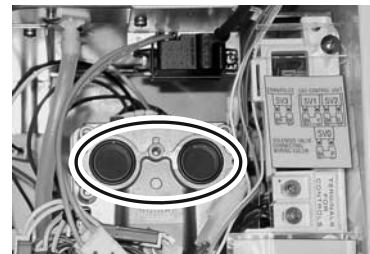

Figure 54
27. Install the bracket over the replacement heat exchanger. Push evenly on both sides of the bracket. Attach with four screws. (Figure 54)
34. Make sure that the two black packings (Figure 54) are intact on the gas control assembly. Attach the gas manifold with 3 machine screws at the gas control assembly. Replace the lower and upper packings (included in kit) for the manifold plate removing any residue.